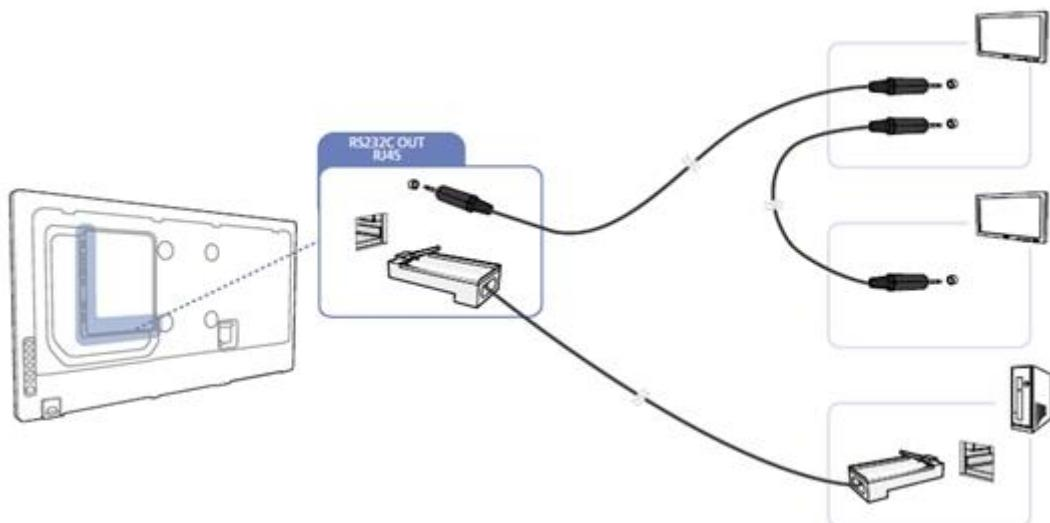

Figure1-3 PC,TV or Monitor connecting method(with RJ45 & RS232C)
- As of Figure 1-3, connect TV and Personal Computer(using Ethernet), connect the next TV or Display to be connected from RS232-Out (9Pin).